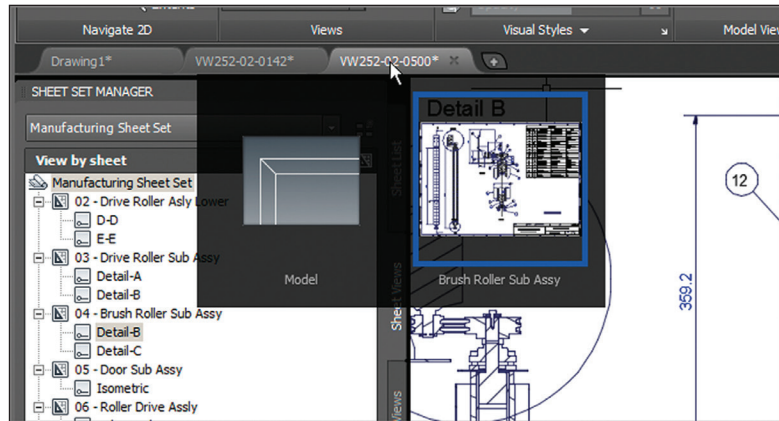

FIGURE 1.9 Accessing open drawings and their spaces
9. Move the cursor over the drawing that you opened in the previous step's tab and observe two icons. Click Model to open the drawing's model space (see Figure 1.9).